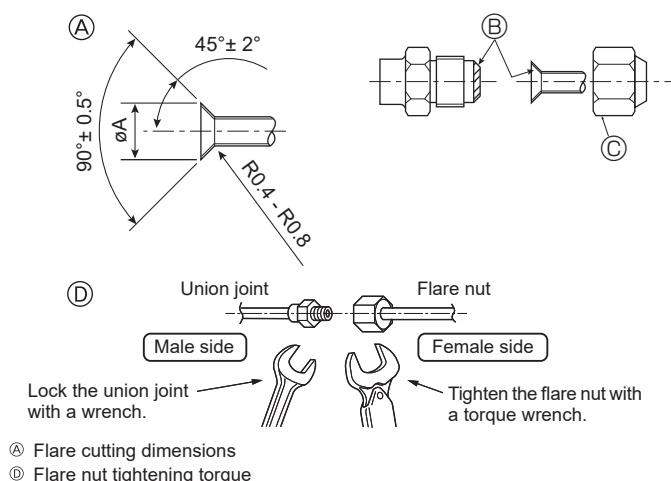

Fig. 4-6
A (Fig. 4-6)
D (Fig. 4-6)
4.4. Connecting pipes (Fig. 4-6)
- Apply thin layer of refrigerant oil to pipe and joint seating surface before tightening flare nut. ①
- Apply refrigerating machine oil over the entire flare seat surface. ②
- Use the flare nuts for the following pipe size. ③
- Use 2 wrenches to tighten piping connections. ④